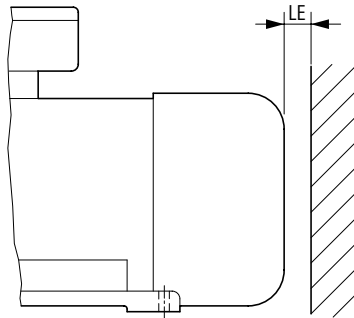

Figure 2: Minimum distance between obstacle and air inlet opening
The entry and exit of air through the fan cowls must not be impeded, otherwise this will result in a temperature rise above the permissible temperature, and a reduction in the lifespan of the winding insulation (→ Fig. 2 and → Table 2).
Table 2: Minimum distance (LE) of an obstacle in front of the air inlet, see Fig. 2.